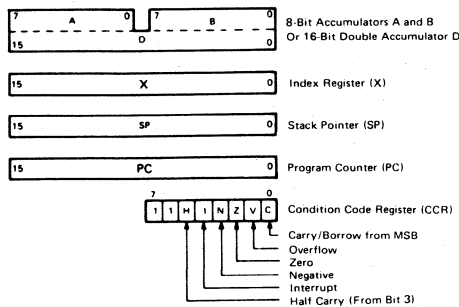

Figure 20 MCU Programming Model
- MCU programming model (See Fig. 20)
The programming model for the HD6303R is shown in Figure 20. The double accumulator is physically the same as the accumulator A concatenated with the accumulator B, so that the contents of A and B is changed with executing operation of an accumulator D.